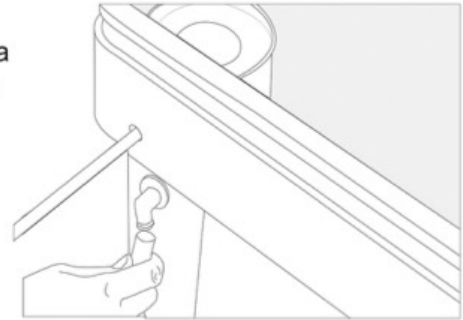

Figure 19
- Finally, use 1/2" I.D. tubing to connect the drain barb fitting on the brine tank to a floor drain as shown in Figure 19. NOTE: This is not necessary as the 2310 assembly is designed to prevent an overflow situation, but is a good and recommended precaution for a proper installation.